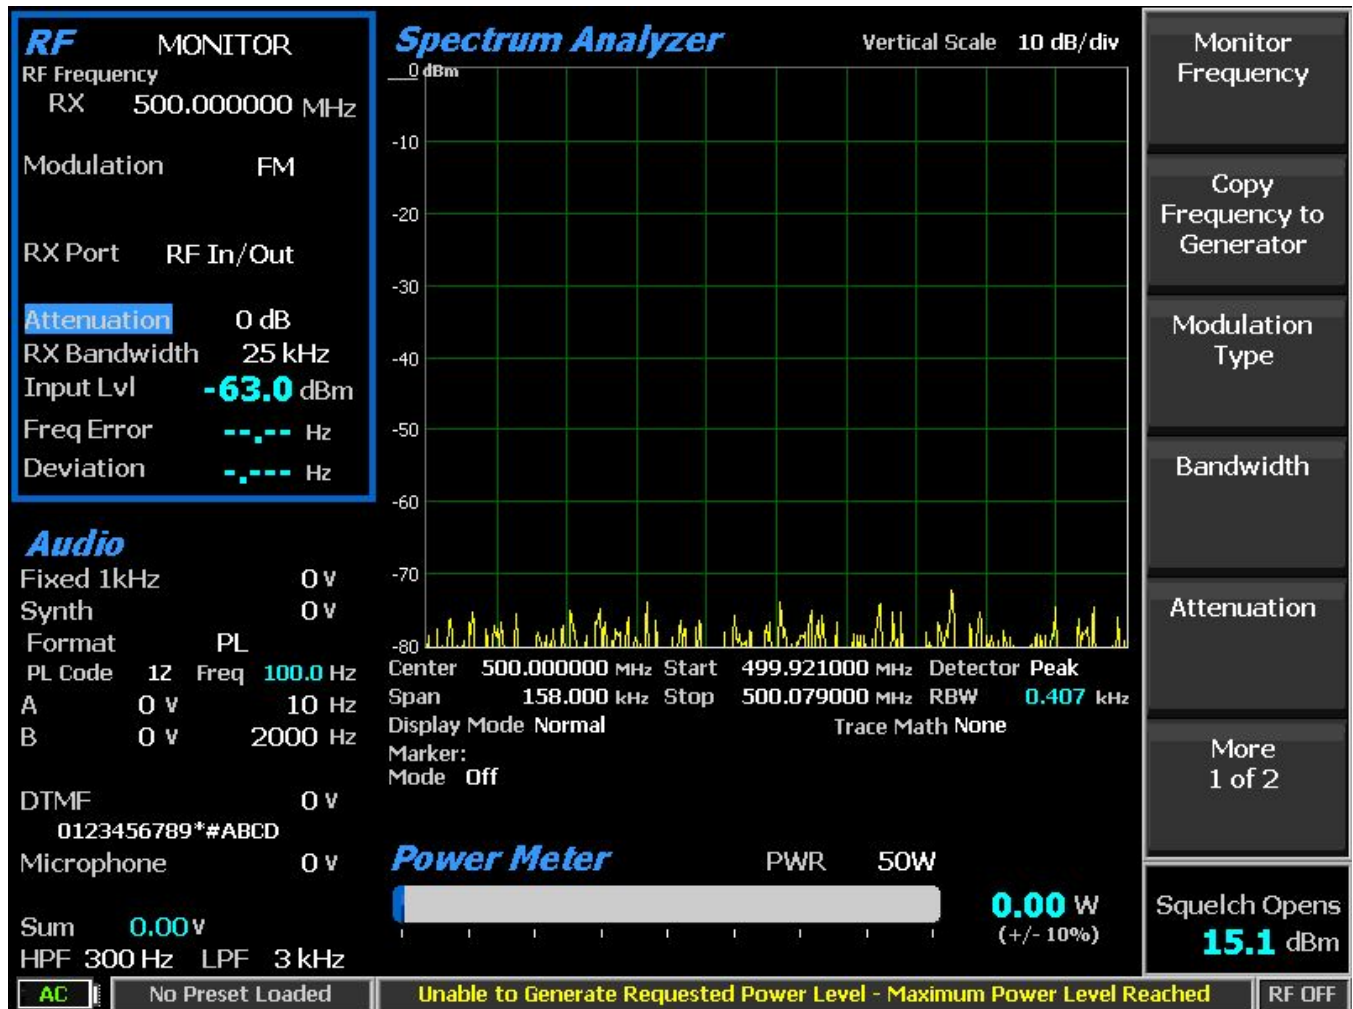

Figure 3.2.1-2 Monitor Mode submenu after RF Zone soft key click
To adjust the RF settings, click the hot key 1. The RF Zone area of the display highlights, and the soft key submenu shown in Figure 3.2.1-2 appears with the following selections: